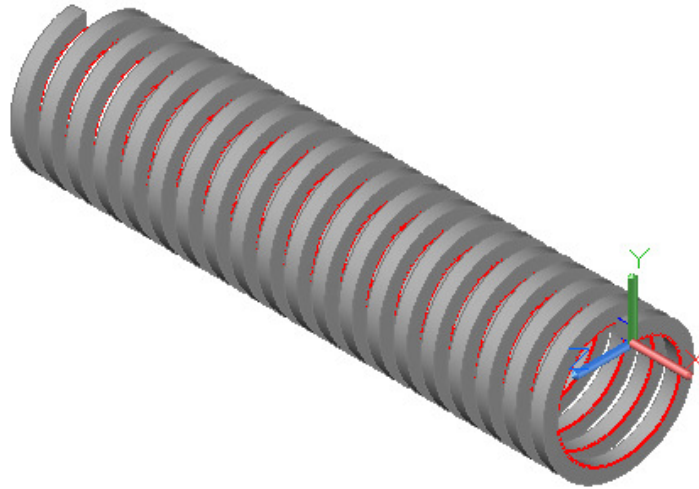

Figure Step 10
Step 10 Set layer: Solid 8 as the current layer. Using the SWEEP command, create the square thread by sweeping the profile along the helix. (Figure Step 10)